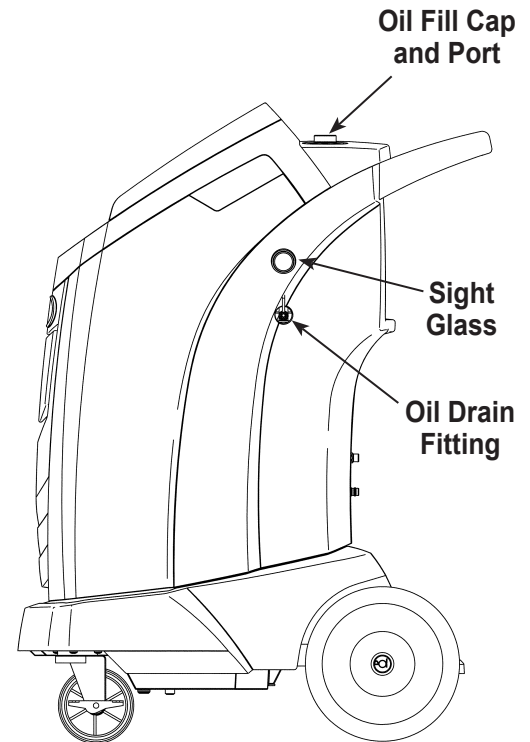

Figure 11
3. **Slowly** open the oil fill cap to verify there is no pressure in the machine. Then carefully remove the cap. See Figure 11.